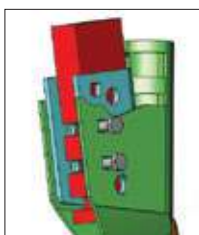

Fig.1
- **When installing on Bourgault PHD use bolt holes pictured right in Fig. 1.**
- **When installing on Bourgault PHD use bolt holes pictured left in Fig. 1.**